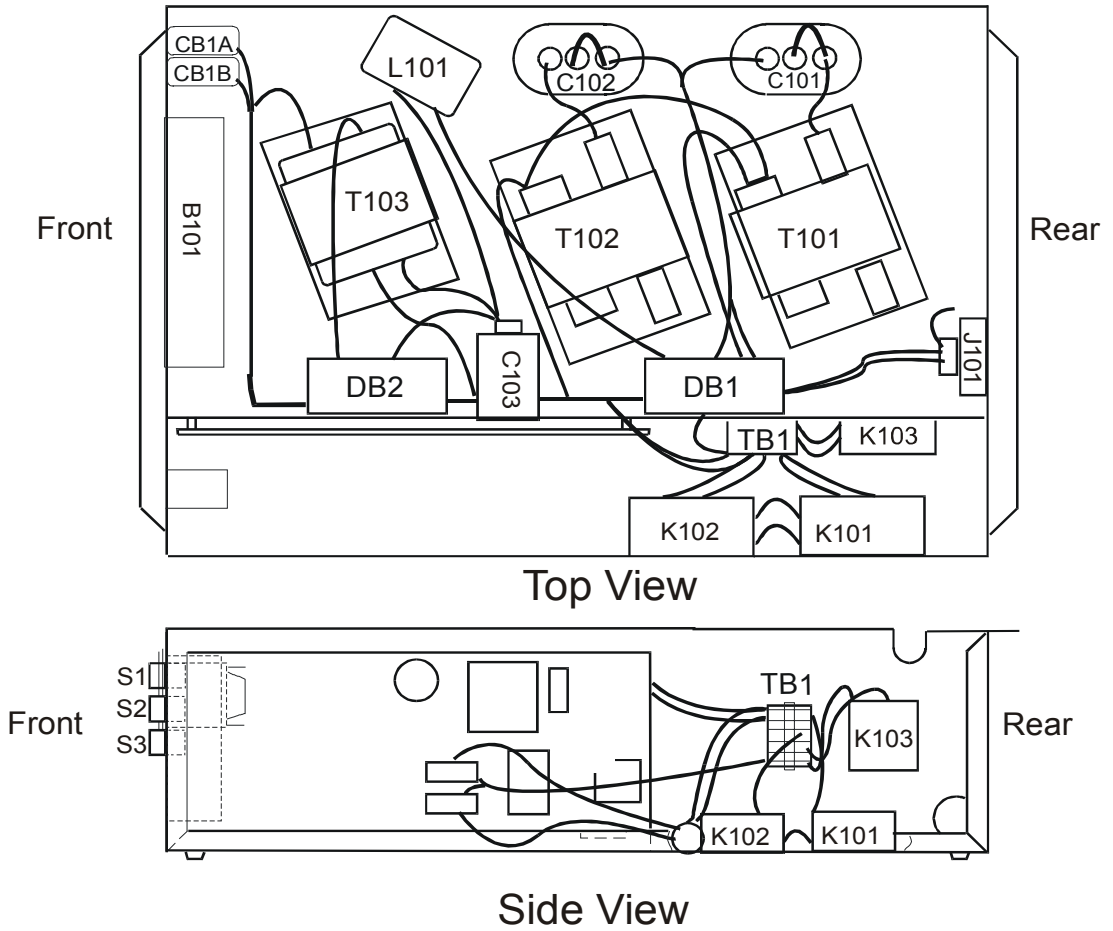

Figure 15. K101 and K102 on P300M/P300MQ
3. Locate the HV capacitors C101 and C102 (refer to Figure 15 on page 54).
3. Locate relays K101 and K102. K101 is closer to the rear of the power supply and K102 is closer to the front (refer to Figure 15 on page 54).